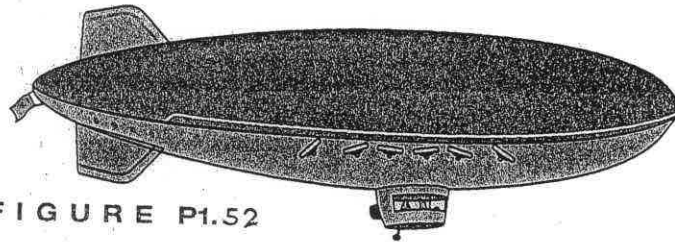

FIGURE P1.52
1.52 The helium-filled blimp shown in Fig. P1.52 is used at various athletic events. Determine the number of pounds of helium within it if its volume is 68,000 ft³ and the temperature and pressure are 80 °F and 14.2 psia, respectively.